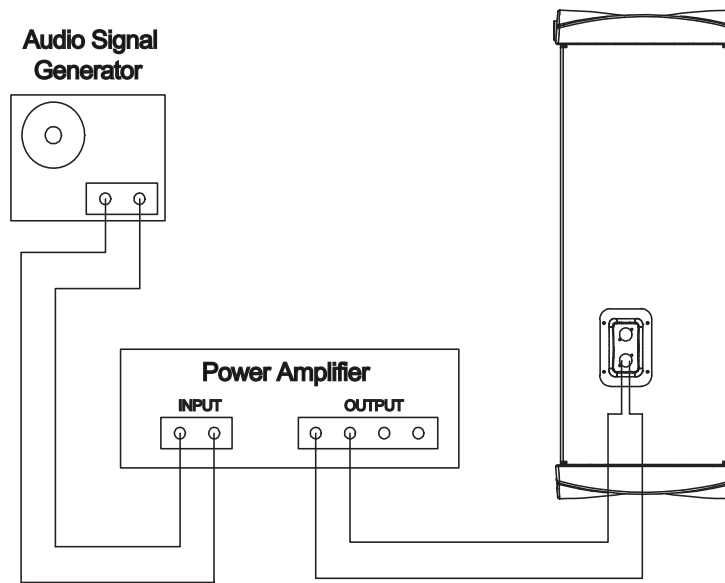

Figure 3. Panaray® MB4 Test Setup Diagram
**1.1** Set up the system for test as shown in Figure 3.
**4.1** Set up the system for test as shown in Figure 3.